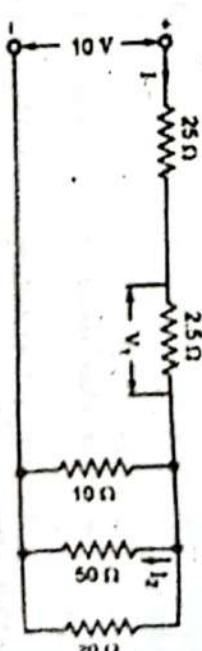

Fig. 21
Q.2. For the circuit shown in Fig. 21, using the method of series-parallel combination, find V_1 and I_2